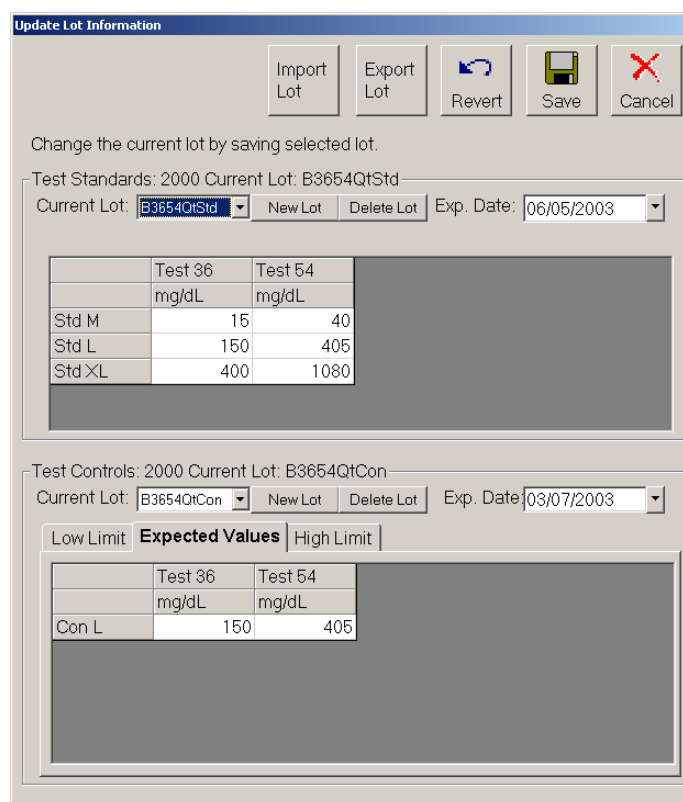

Figure 5-67 Update Lot Information Dialog Box
- Highlight the template that you want to edit and click **Select**. The **Update Lot Information** dialog box opens. See Figure 5-67.
2. Double-click the template that you want to edit. An **Update Lot Information** dialog box opens. See Figure 5-67.